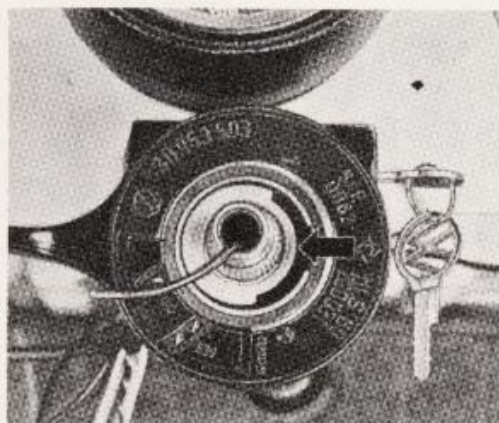

Fig. C-31. Brass washer that locates in steering wheel hub must have recess to right for correct installation.
- 3 - See that brass washer is located correctly with recess to right when wheels are straight ahead, Fig. C-31.